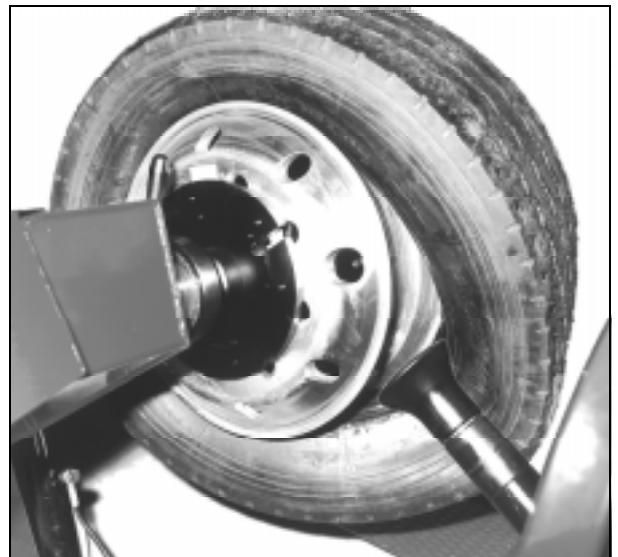

Fig.26
- G.** Continue to rotate the chuck while moving the toolholder carriage towards the outside until both beads are demounted from the rim (Fig.26)